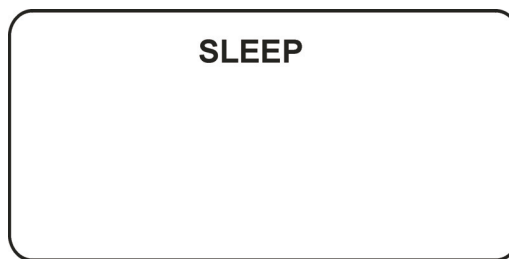

Figure 5 The Unit is Asleep
- You'll see the SLEEP indicator at the top of the screen (Figure 5).